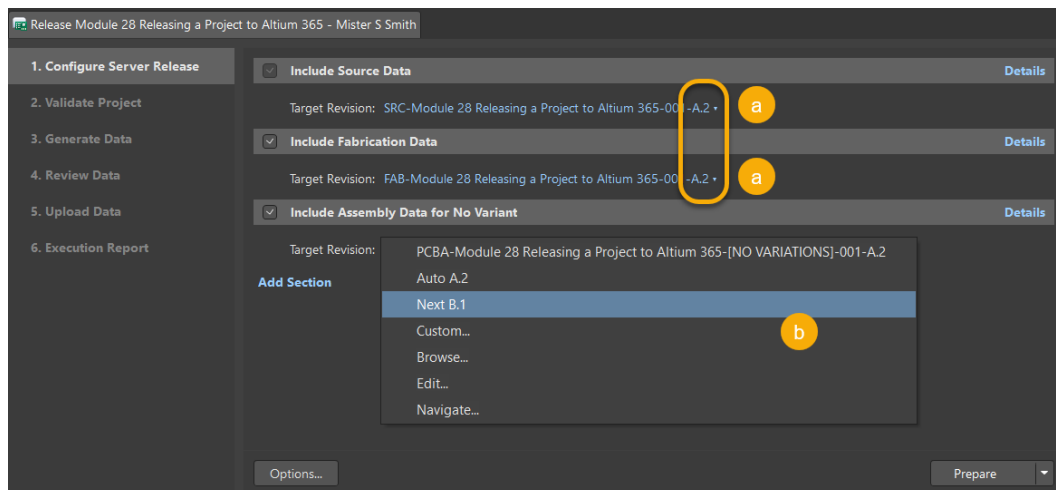

Figure 9. Second Release
36. The release Process starts again with Step 1. *Configure Server Release*, Figure 9.